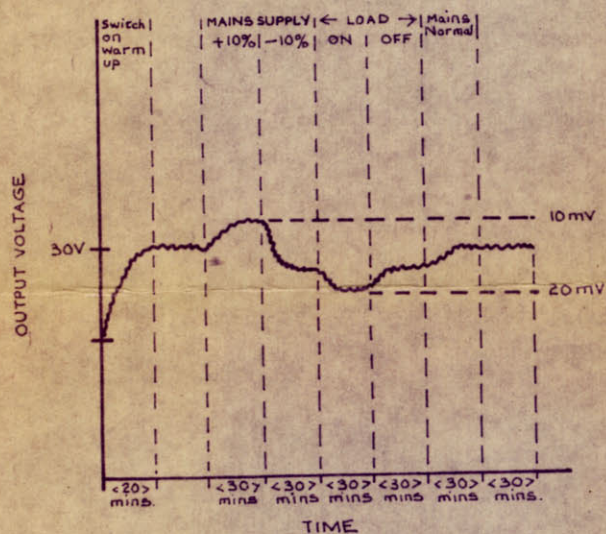

Fig 4. Typical Output Voltage Variation against Time.
- (ii) Internal Change—Figure 4 shows typical output variations caused by mains change and load change, plotted against time.